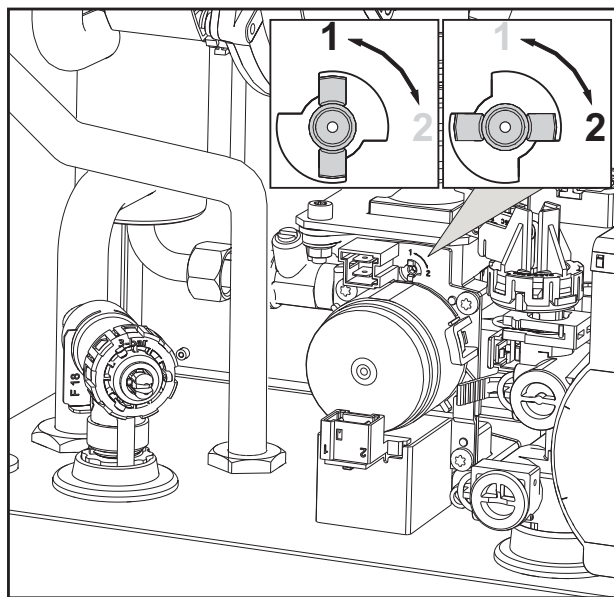

fig. 31
3. Turn the Throttle (fig. 31) according to the position indicated in table 9.